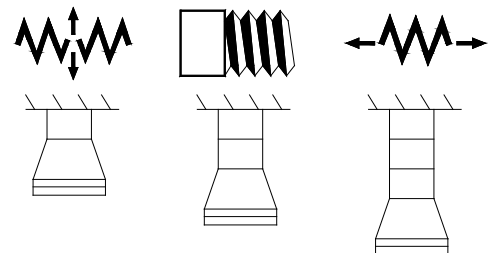
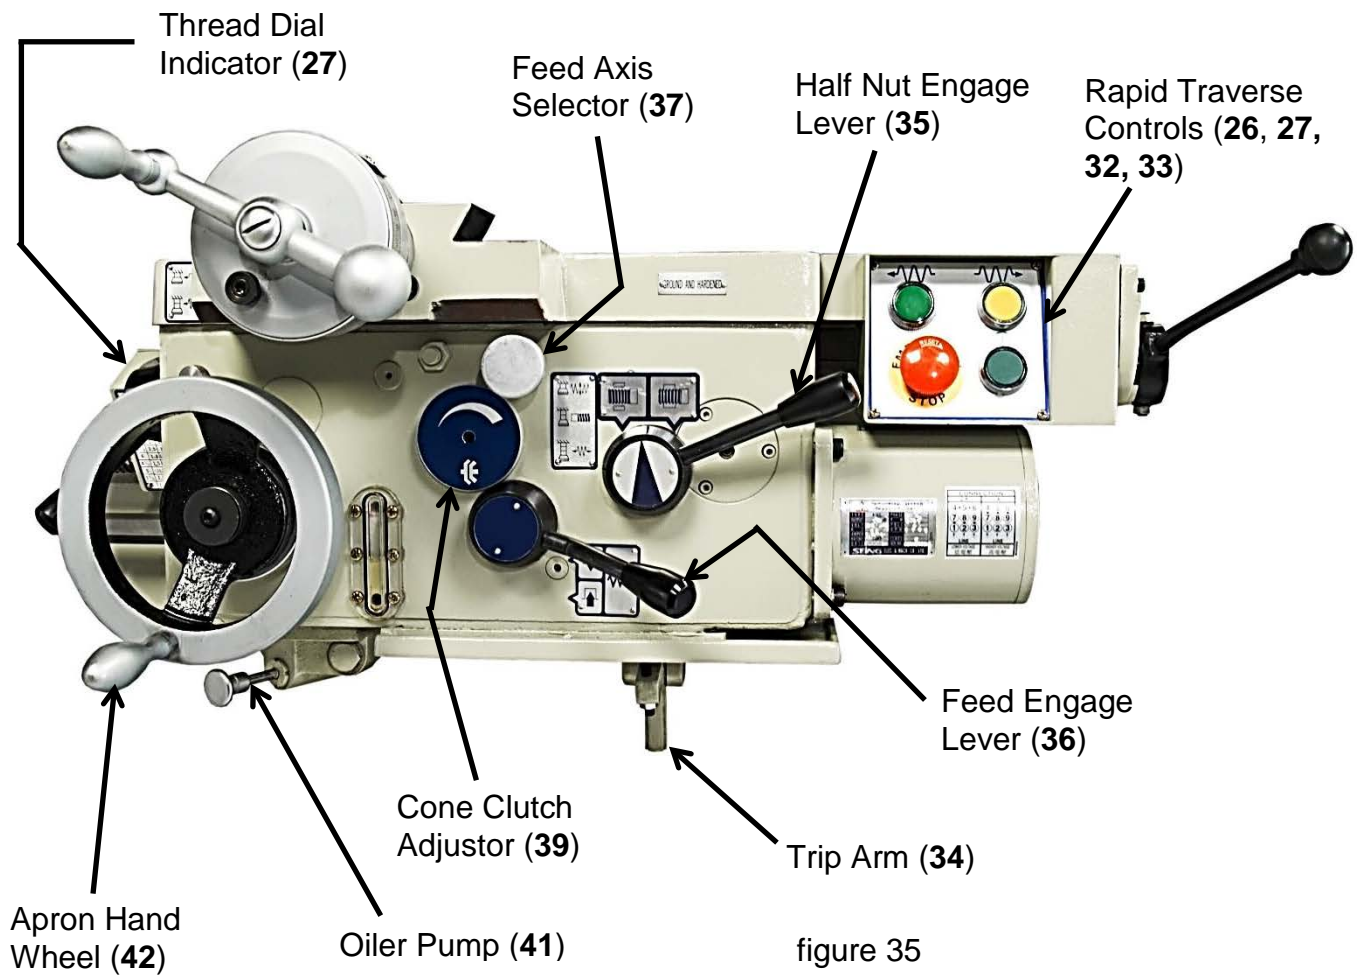

figure 34
figure 35
**Feeds – manual:** The apron hand wheel (42) may be used to traverse the saddle left or right (longitudinal) either in a rapid motion or as a slow manual feed mechanism.
**Feeds – power:** Either longitudinal or cross travel are selected by positioning the feed axis selector (37) "IN" (on the first line) for cross feed or "OUT" (on the third line) for longitudinal feed. (fig. 34) To engage the feed; (once direction has been established) push feed engage lever (36) downward until fully engaged (fig. 35). To dis-engage, lift feed engage lever (36).
2. Determine the direction of feed using the feed direction selection knob (11) located at the headstock.
3. Pull feed axis selector (37) to the "OUT" position (the third line) for longitudinal power feed (fig. 34).
4. Engage feed: Move feed engage handle (36) to the "DOWN" position.
5. To stop: Raise feed engage lever (36) to the disengaged "UP" position.
3. Push feed axis selector (37) to the "IN" position (the first line) (fig. 34).